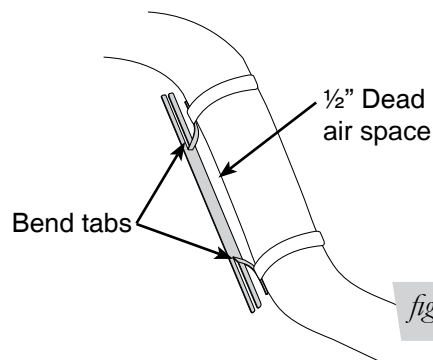

fig. 13
1. Bend tabs to provide a 1/2" dead air space between exhaust pipe and heat shield (fig. 13).
2. Attach the heat shield to the exhaust pipe using the clamps. Bend the heat shield for maximum clearance to the air spring (fig. 13).